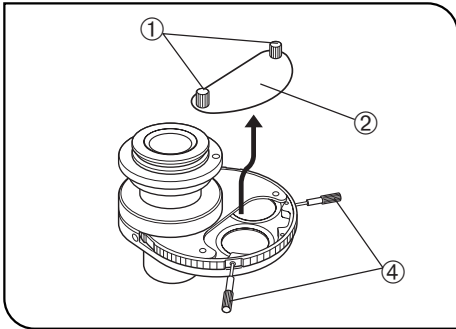

Fig. 47
(Figs. 47 & 48)
1. Place the condenser in the orientation as shown in Fig. 47, loosen the detaching screws ① and remove the cover ②.
3. Loosen the optical element position centering screws using the optical element centering knobs ④. (Figs. 47 & 48)